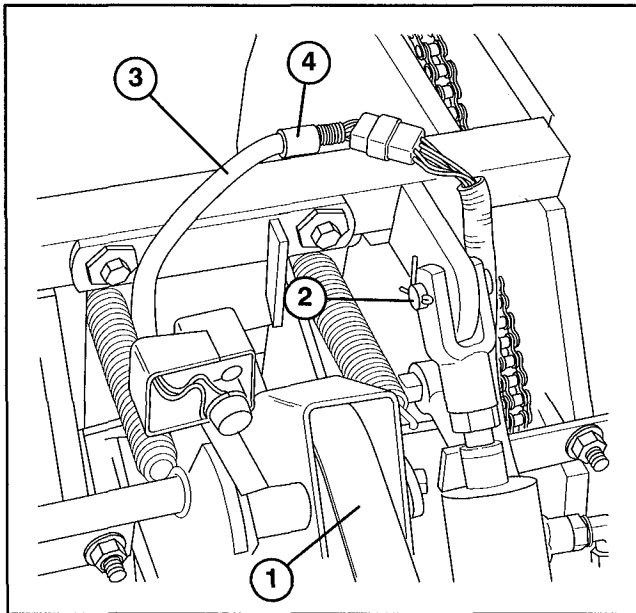

Figure 44
4. Remove the coring head drive belt from the engine pulley (Fig. 44).
7. Remove hair pin cotter from lift cylinder pin connected at coring head (Fig. 44), and remove pin.
8. Remove nut securing wire harness clamp to chassis (Fig. 44).